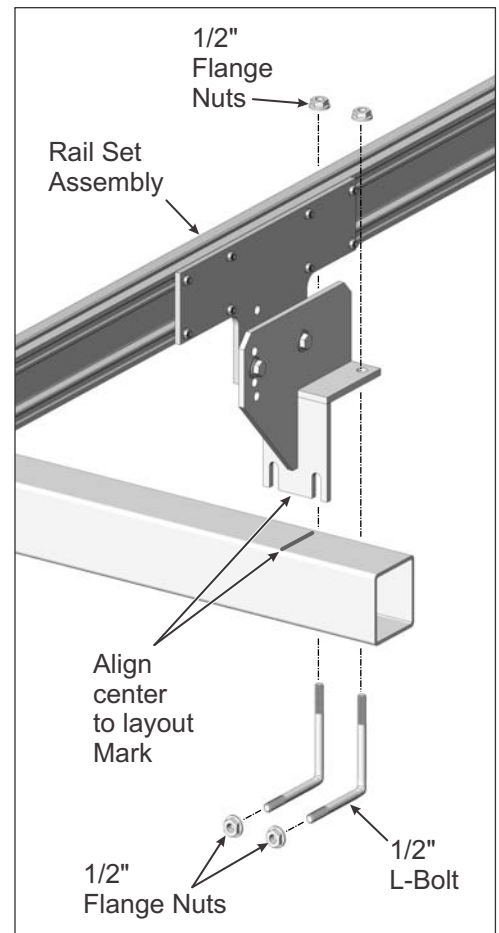

Figure 4-5: Attaching the Rail Set to the Horizontal Tube
- A. Using a tape measure, mark the pre-determined locations of the Rail Sets on the Horizontal Tube using the instructions outlined above. (See Figure 4-5)